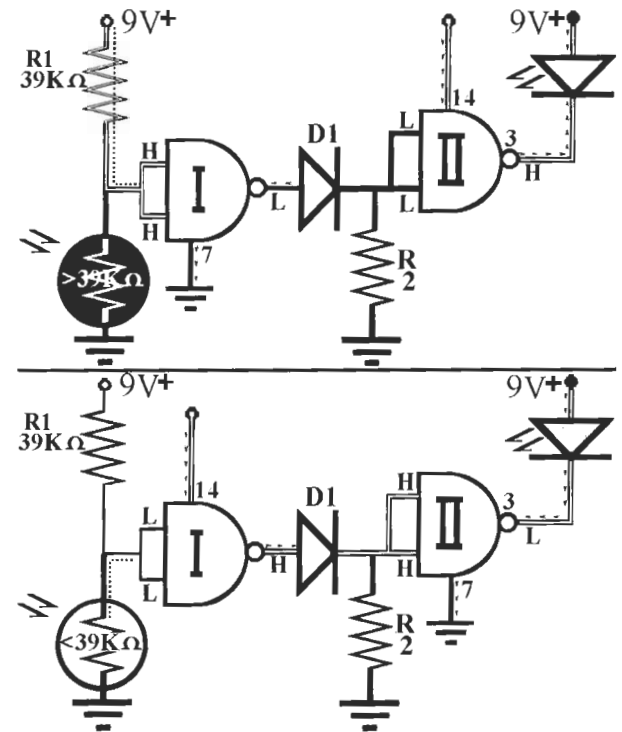

Figure L22-2
2. Place the LDR into your circuit as shown in Figure L22-2.